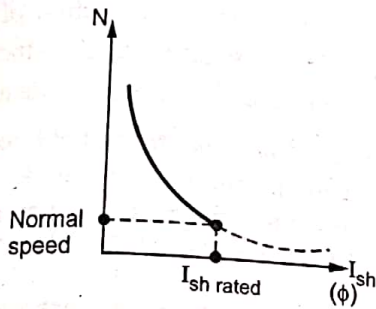

Fig. Q.51.4 N Vs I_{sh} (ϕ) for shunt motor
- This is shown in the Fig. Q.51.4, by speed against field current curve. The curve shows the inverse relation between N and ϕ as its nature is rectangular hyperbola.